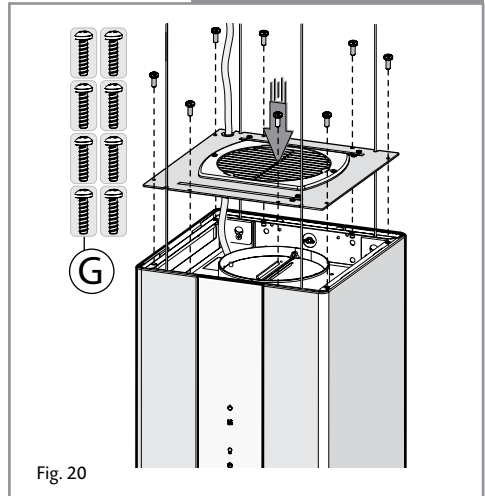

Fig. 20
12. Fit the extractor top panel, as shown in Fig 20, using the 8 supplied screws (G). Again, ensure that the mains supply cable is not trapped.